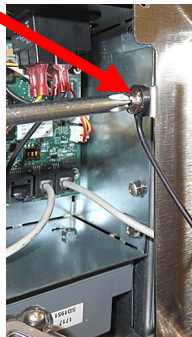

Figure 22
50. Disconnect the lanyard tether from the frame (see Figure 22) to remove the controller.